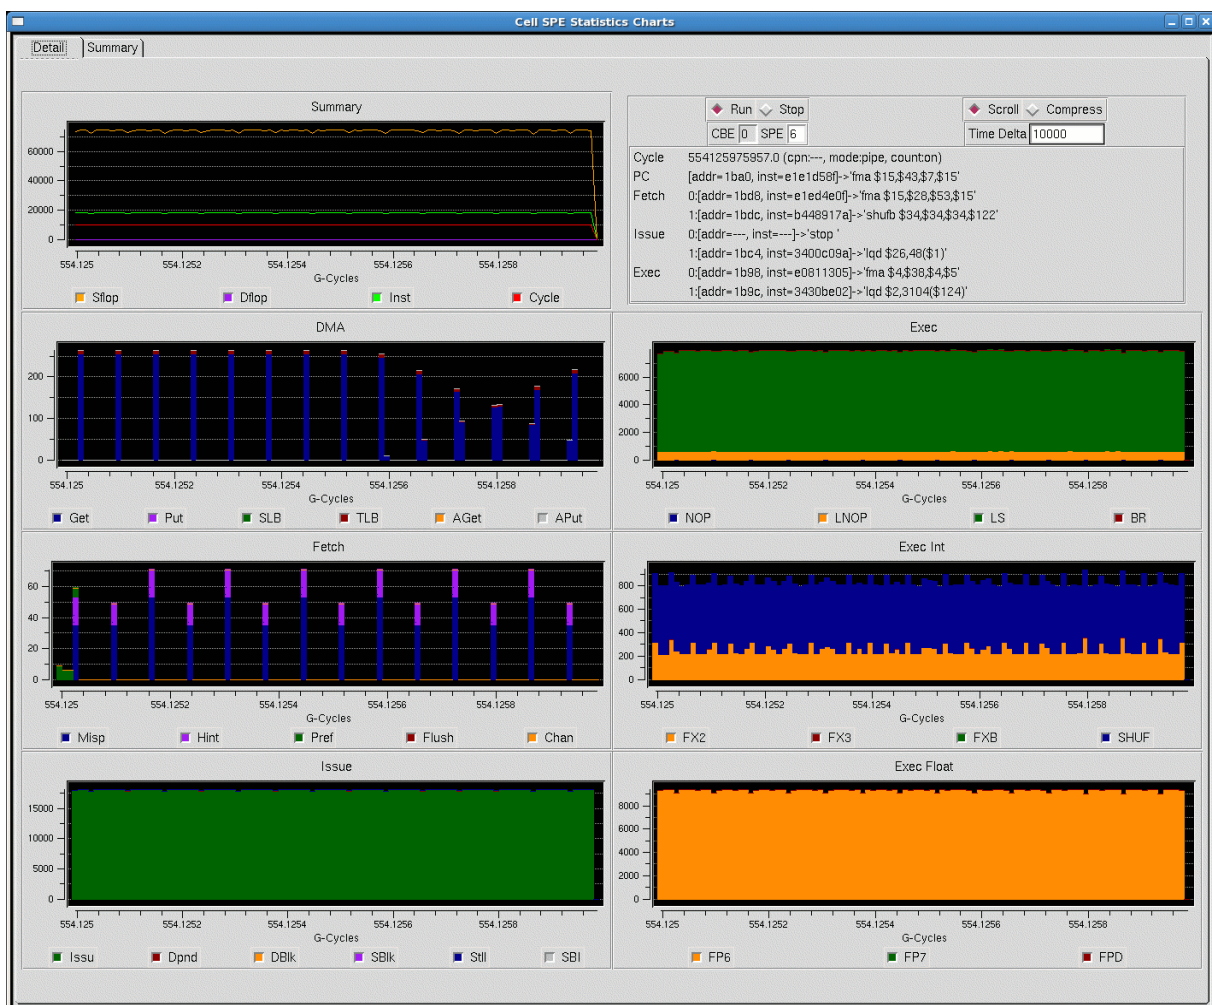

Figure 2-21. SPE Visualization Window
- **SPE Visualization**—Plots histograms of SPU and DMA event counts. The counts are sampled at user defined intervals, and are continuously displayed. Two modes of display are provided: a “scroll” view, which tracks only the most recent time segment, and a “compress” view, which accumulates samples to provide an overview of the event counts during the time elapsed. Users can view collected data in either detail or summary panels. The detailed, single-SPE panel tracks SPU pipeline phenomena (such as stalls, instructions executed by type, and issue events), and DMA transaction counts by type (gets, puts, atomics, and so forth). The summary panel tracks all eight SPEs for the Cell Broadband Engine, with each plot showing a subset of the detailed event count data available. Figure 2-21 on page 20 shows the SPE Visualization window.